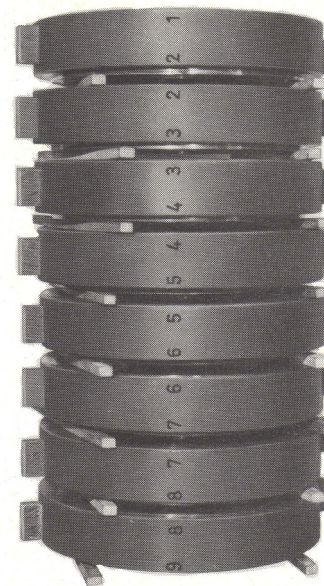

Figure 30 – Stacking the stage casings
Before dismantling, match-mark the stage casings (108) so they can be reassembled in the same order and position (see fig. 30).
8. Pull last stage impeller (230) off the shaft.
9. Remove the stage casings (108) together with the diffusers (171.1), stage sleeves (521) and impellers (230/231) off the following stages.
10. After the last stage casing (108), has been dismantled, draw the shaft (210) with first stage impeller (230 / 231) out of the suction casing (106) then pull the impeller (230 / 231) off the shaft (210).
11. Stack the stage casings (108) carefully so that the seal faces cannot be damaged (see fig 30).